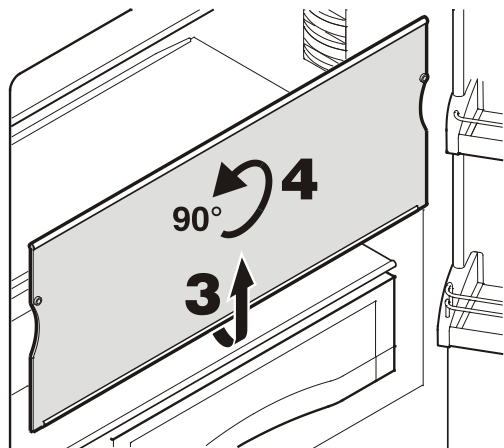

Figure 11
Removing the shelves - *Figure 11*
- Remove glass shelves as shown in *Figure 11*.